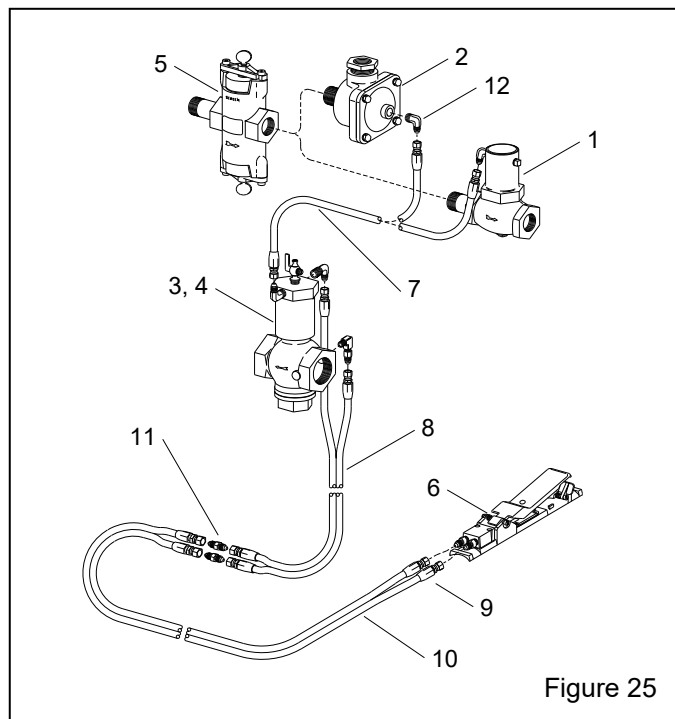

Figure 25
7.3 System Replacement Parts – Figure 25
All other parts are the same, as shown in Section 7.3 and Figure 25. Refer to the RLX manual for replacement parts for the ACS Control. Refer to the metering valve manual for metering valve replacement parts.